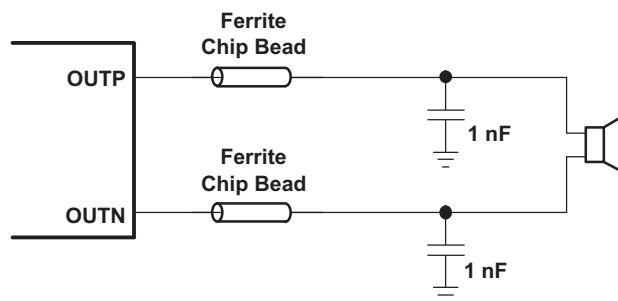

Figure 20. Typical Ferrite Chip Bead Filter (Chip Bead Example: NFZ2MSM series from Murata)
- Output filter—The ferrite EMI filter (Figure 20) should be placed as close to the output pins as possible for the best EMI performance. The capacitors used in the ferrite should be grounded to power ground.